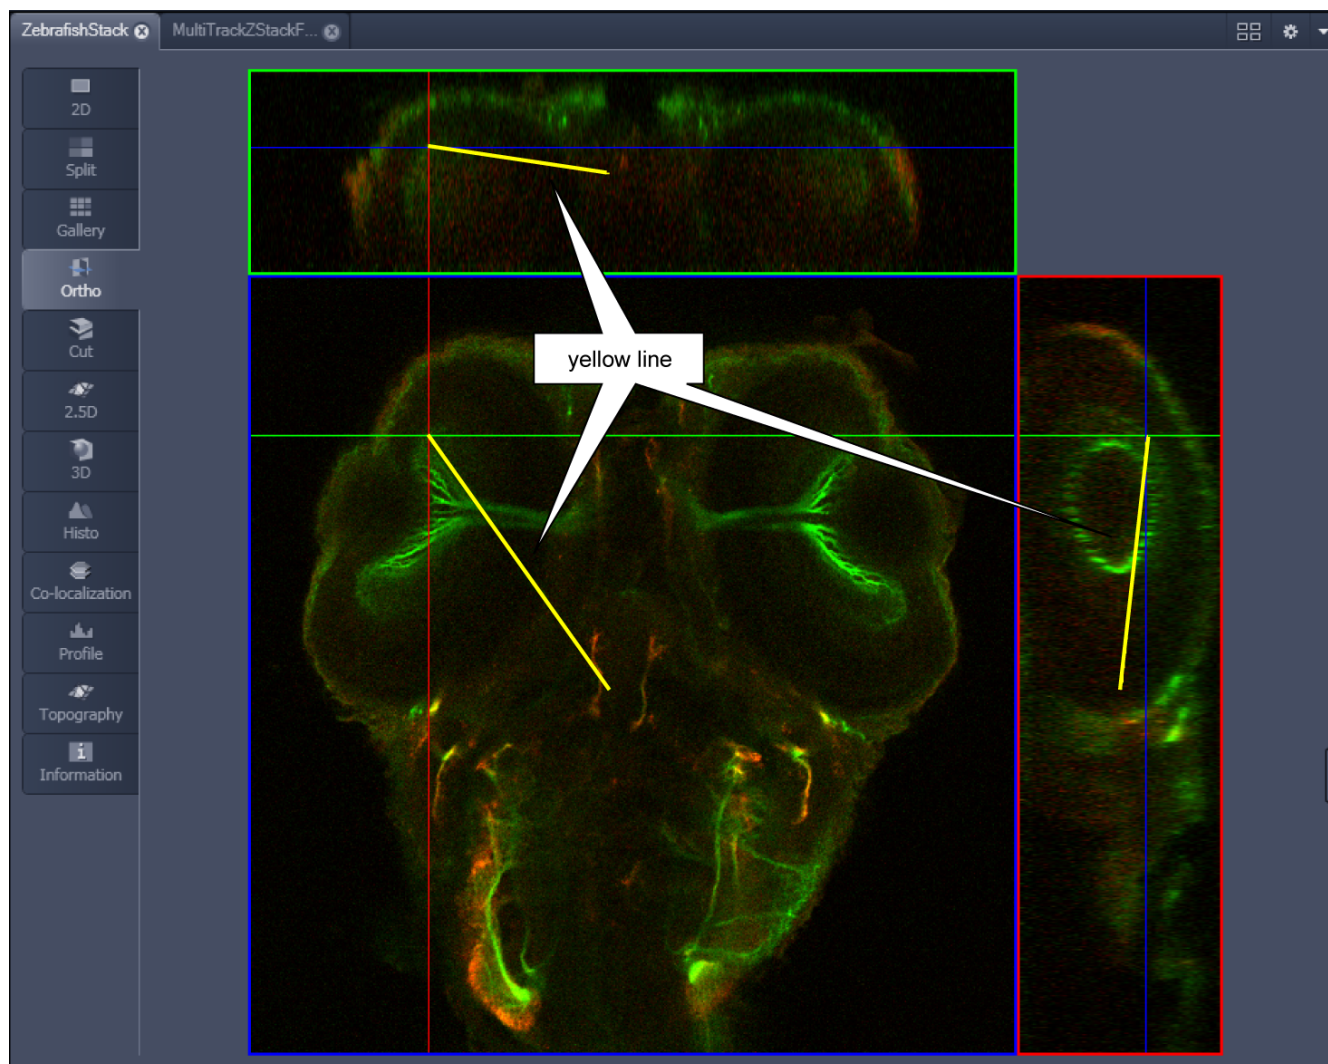

Fig. 507 Image Display – Ortho View - 3D Distance Measurement display
- The projections of the spatial distance are shown in the image planes by yellow lines (Fig. 507). The actual spatial distance is calculated and shown in  $\mu\text{m}$  next to the **Mark** button.